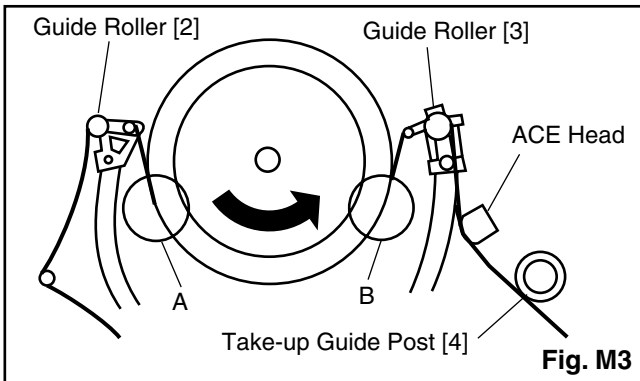

Fig. M3
1. Playback a blank cassette tape and check to see that the tape runs without creasing at Guide Rollers [2] and [3], and at points A and B on the lead surface. (Refer to Fig. M3 and M4.)
2. If creasing is apparent, align the height of the guide rollers by turning the top of Guide Rollers [2] and [3] with a Guide Roller Adj. Screwdriver. (Refer to Fig. M3 and M5.)
3. Check to see that the tape runs without creasing at Take-up Guide Post [4] or without snaking between Guide Roller [3] and ACE Head. (Fig. M3 and M5)
- Playback the Gray Scale on the Alignment Tape (MH-1). Set the Tracking Control Circuit to the pre-set position by pressing CH UP button and then "PLAY" button on the unit. Adjust the height of Guide Rollers [2] and [3] (Fig. M3, page 4-6) watching the oscilloscope display so that the envelope becomes as flat as possible. To do this adjustment, turn the top of the Guide Roller with the Guide Roller Adj. Screwdriver.
- If the envelope is as shown in Fig. M7, adjust the height of Guide Roller [2] (Refer to Fig. M3) so that the waveform looks like the one shown in Fig. M9.
- If the envelope is as shown in Fig. M8, adjust the height of Guide Roller [3] (Refer to Fig. M3) so that the waveform looks like the one shown in Fig. M9.
- When Guide Rollers [2] and [3] (Refer to Fig. M3) are aligned properly, there is no envelope drop either at the beginning or end of track as shown in Fig. M9.
Note: Upon completion of the adjustment of Guide Rollers [2] and [3] (Refer to Fig. M3), check the X Value by pushing the CH UP or DOWN buttons alternately, to check the symmetry of the envelope. Check the number of pushes to ensure preset position. The number of pushes CH UP button to achieve 1/2 level of envelope should match the number of pushes CH DOWN button from center. If required, redo the "X Value Alignment."